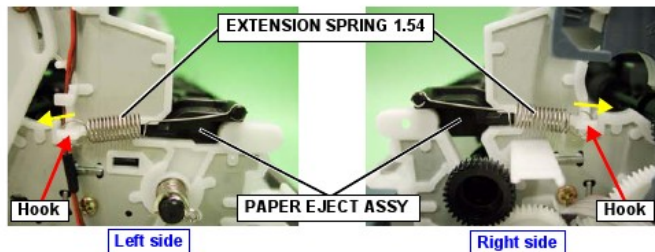

Figure 4-36. EXTENSION SPRING 1.54 Removal
- Install PAPER EJECT ASSY before installing left and right EXTENSION SPRING 1.54, and secure the hooks of FRAME ASSY, LEFT and FRAME ASSY, RIGHT while pulling on EXTENSION SPRING 1.54 with tweezers. (Refer to Figure 4-36, "EXTENSION SPRING 1.54 Removal".)